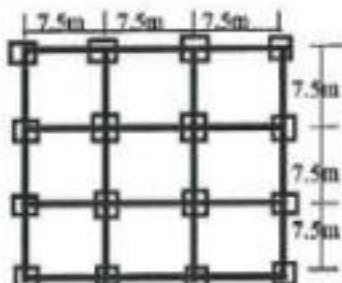

Fig.1 Q3-Plan of Building
- Q3)** A four storied square RC framed residential building as shown in Fig.1 with [14] live load  $4\text{kN/m}^2$  is to be constructed on hard soil strata in zone V. Determine the seismic forces on the structure by seismic coefficient method using IS 1893 part (I). All beams and columns size 300mmx 450 mm. Thickness of roof and floor slab 120 mm . Wall is of 230 mm thick all around. Height of each floor is 3m. Density of concrete  $25\text{kN/m}^3$  and masonry  $20\text{kN/m}^3$ . Assume 5% damping